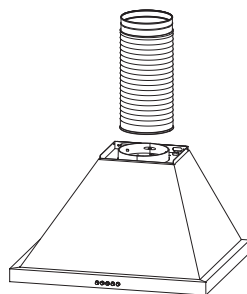

Fig.5
- Fix the exhaust pipe, See Fig.5.